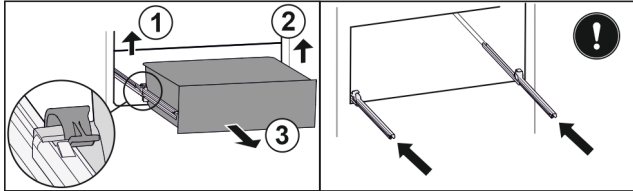

Fig. 34
- ▶ Lift left clamp and simultaneously pull drawer forwards on the left. Fig. 34 (1)
- ▶ Lift right clamp and simultaneously pull drawer forwards on the right. Fig. 34 (2)
- ▶ Remove drawer to the front. Fig. 34 (3)